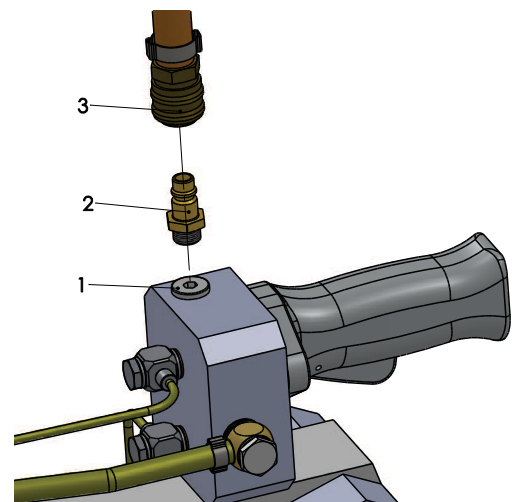

Fig. 5.1 – Compressed air connection
To connect the cutter, you need the hose unit 001366918. Remove the sealing plug (1) see Fig. 5.1. Then mount the compressed air plug nipple (2) instead of the sealing plug. Push the coupling (3) onto the thread nipple until it engages.
The machine must always be operated in combination with a weight relief device (1 – spring balancer), see Fig. 5.1.